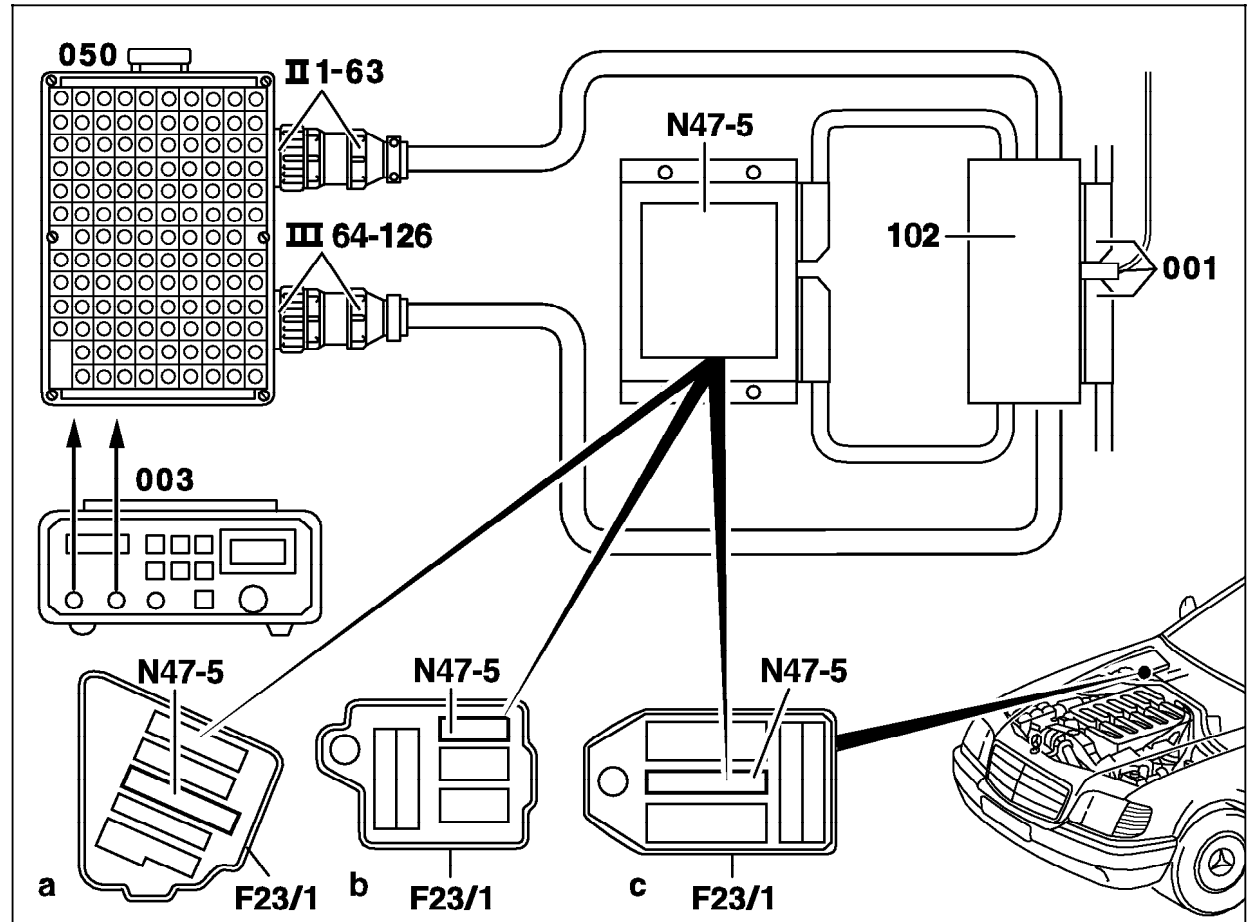

Figure 1
3. Connect socket box with test cable as per connection diagram (Figure 1).